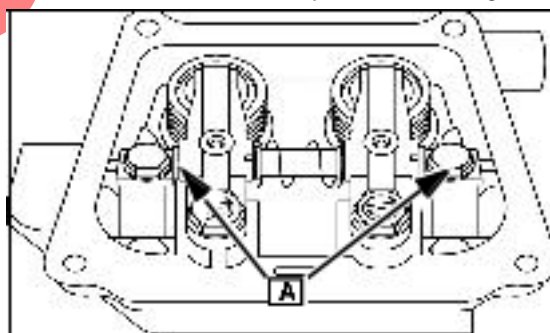

Fig. 3
Remove two hex screws (A) holding rocker arm shaft to cylinder head, Fig. 3.